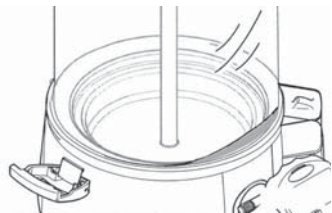

Fig. 37
- Fig. 37 shows a bowl which is not correctly assembled; here the bowl does not perfectly adhere to the machine edge.